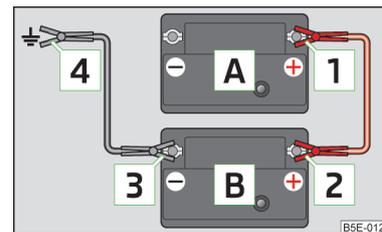

Fig. 184
- Attach clamp **1** to the positive terminal of the discharged battery **A** » Fig. 184.